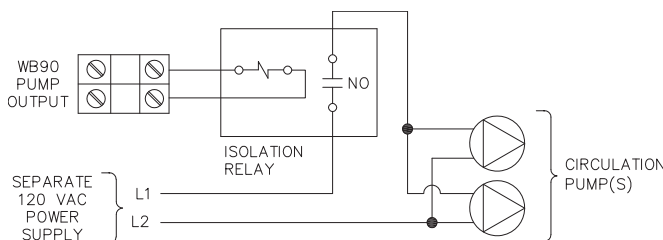

Figure 7.5: Isolation Relay Wiring
- b. Figure 7.5 shows typical wiring for an isolation relay.